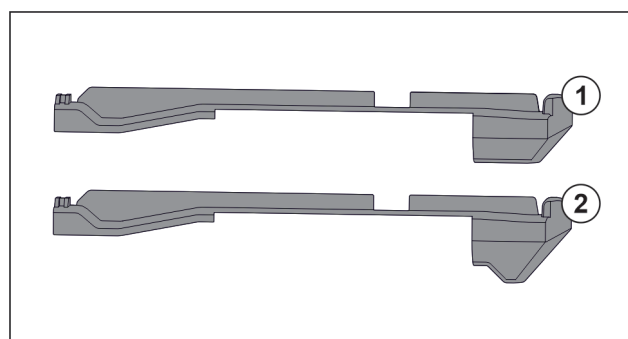

Fig. 121 Comparing attachments
There are two different attachments in the appliance. The attachment above the lowest drawer Fig. 121 (2) has a three-cornered edge. All other attachments Fig. 121 (1) have a straight edge.
- Fit attachment Fig. 121 (2) with the three-cornered edge above the lowest drawer.
- Fit attachment Fig. 121 (1) with straight edge in all other positions.